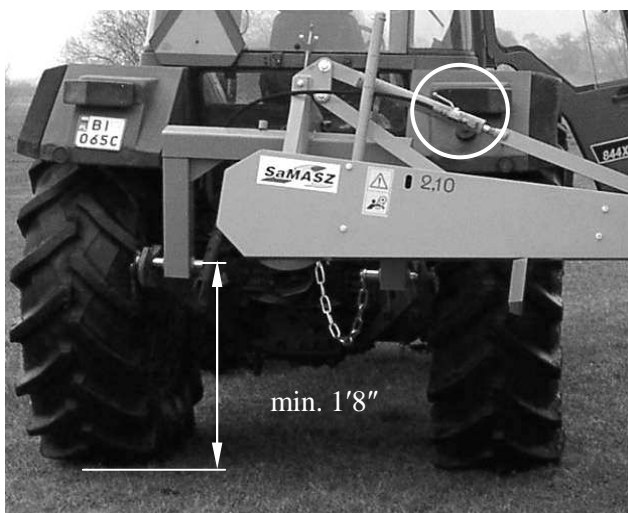
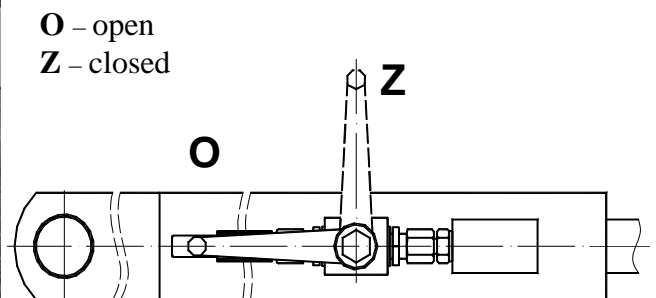

Fig. 15. Mower raised to transport position
Fig. 16. Shut-off valve positions
During transport the shut-off valve of mower hydraulic lift should always be closed – the valve lever in position **Z** (**Fig. 16**). This protects the mower against accidental falling if hydraulic unit failure occurs.
- ❑ to prevent the mower from falling down close the shut-off valve (**Fig. 16**) on the hydraulic cylinder (**Fig. 15**),
- ❑ Set the safety breakaway device in working position (according to item 4.8a),
- ❑ open the shut-off valve on the hydraulic cylinder (**Fig. 16**),